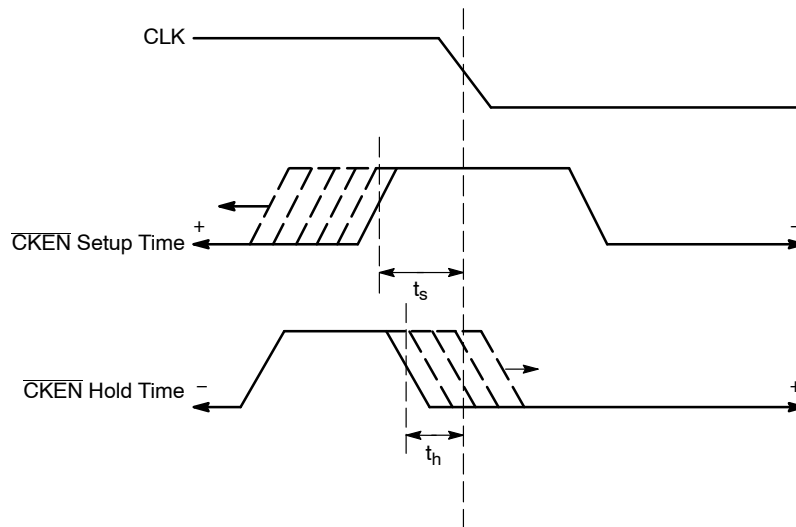

Figure 6. $\overline{\text{CKEN}}$ Setup and Hold Time
Upon power-up, the internal flip-flops will attain a random state. To synchronize multiple flip-flops in the device, the Reset (pin 1) must be asserted. The reset pin will disable the internal clock signal irrespective of the CKEN state (CKEN disables the internal clock circuitry). The device will grab the first stream of data after the falling edge of RESET^①, followed by the falling edge of CLK^②, on second rising edge of CLK^③ in either CKSEL modes. (See Figure 6)